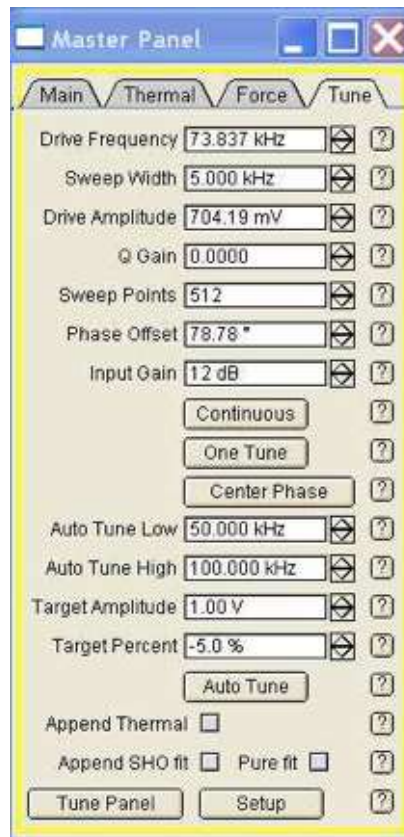

Figure 6.5 Master Panel, Tune
Once the light source has been properly aligned onto the cantilever and the head has been placed onto the stage, lower the head until the cantilever is 1-2 millimeters (mm) above the sample surface. Tune the cantilever by clicking on the Tune tab, which is the last tab in the Master panel. (See Figure 6.5)
1. In the Master Panel, click the Tune tab (See Figure 6.5).
3. Take the resonance frequency obtained from the Thermal PSD, and enter 30kHz higher than that value for the Auto Tune High (See Figure 6.5).
4. Take the resonance frequency obtained from the Thermal PSD, and enter 30kHz lower for the Auto Tune Low (See Figure 6.5).
5. Enter the Target Amplitude (See Figure 6.5).